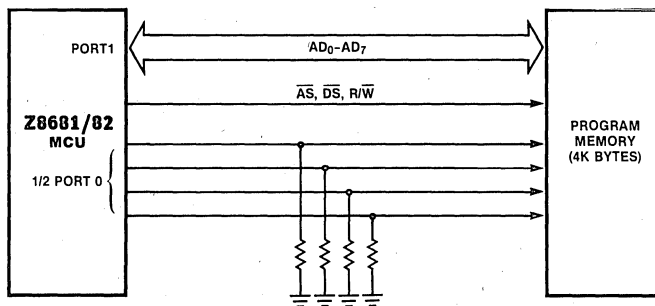

Figure 10. Port 0 Address Lines Tied to Logic 0
Such an initialization routine must reside within the first 256 bytes of executable code and must be physically mapped into memory by forcing the Port 0 address lines to a known state (Figure 10). The proper port initialization sequence is:
*Example.* In Figure 10, the initialization routine is mapped to the first 256 bytes of program memory. Pull-down resistors maintain the address lines at a logic 0 level when these lines are floating. The leakage current caused by fanout must be taken into consideration when selecting the value of the pull-down resistors. The resistor value must be large enough to allow the Port 0 output driver to pull the line to a logic 1. Generally, pull-down resistors are incompatible with TTL loads. If Port 0 drives into TTL input loads ( $I_{LOW} = 1.6 \text{ mA}$ ) the external resistors should be tied to  $V_{CC}$  and the initialization routine put in address space  $FF00_H - FFFF_H$ .